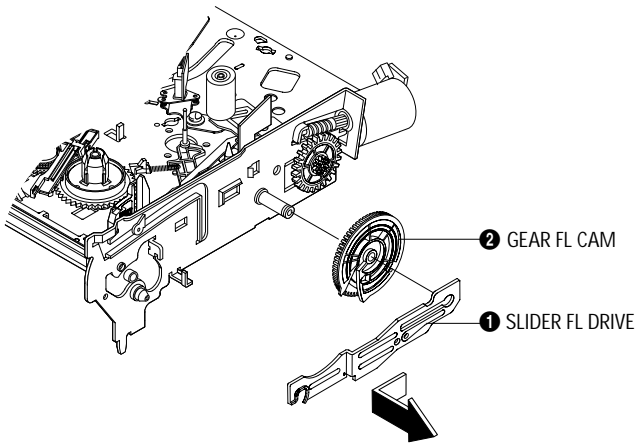

Fig. 1-6 Slider FL Drive Removal
- 1) Pull the Slider FL Drive ❶ to the front direction.
- 2) Remove the Slider FL Drive ❶ in the direction of arrow. (Refer to Fig. 1-6)
- 3) Remove the Gear FL cam ❷.
**Note :** When reinstalling be sure to reassemble Slider FL drive ❶ after you insert the Boss of Lever FL ARM-R in Groove of Slider Fl drive ❶.
**Assembly :** Align the Gear FL Cam ❶ with the Gear worm wheel Post as shown drawing. (Refer to Timing point)